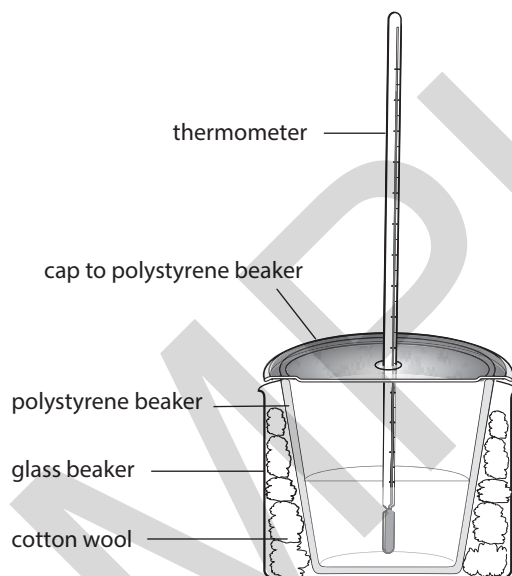

Figure 3.3
- 5 a Place the polystyrene beaker inside the glass beaker and fit the cotton wool round it to improve the insulation (as shown in Figure 3.3).